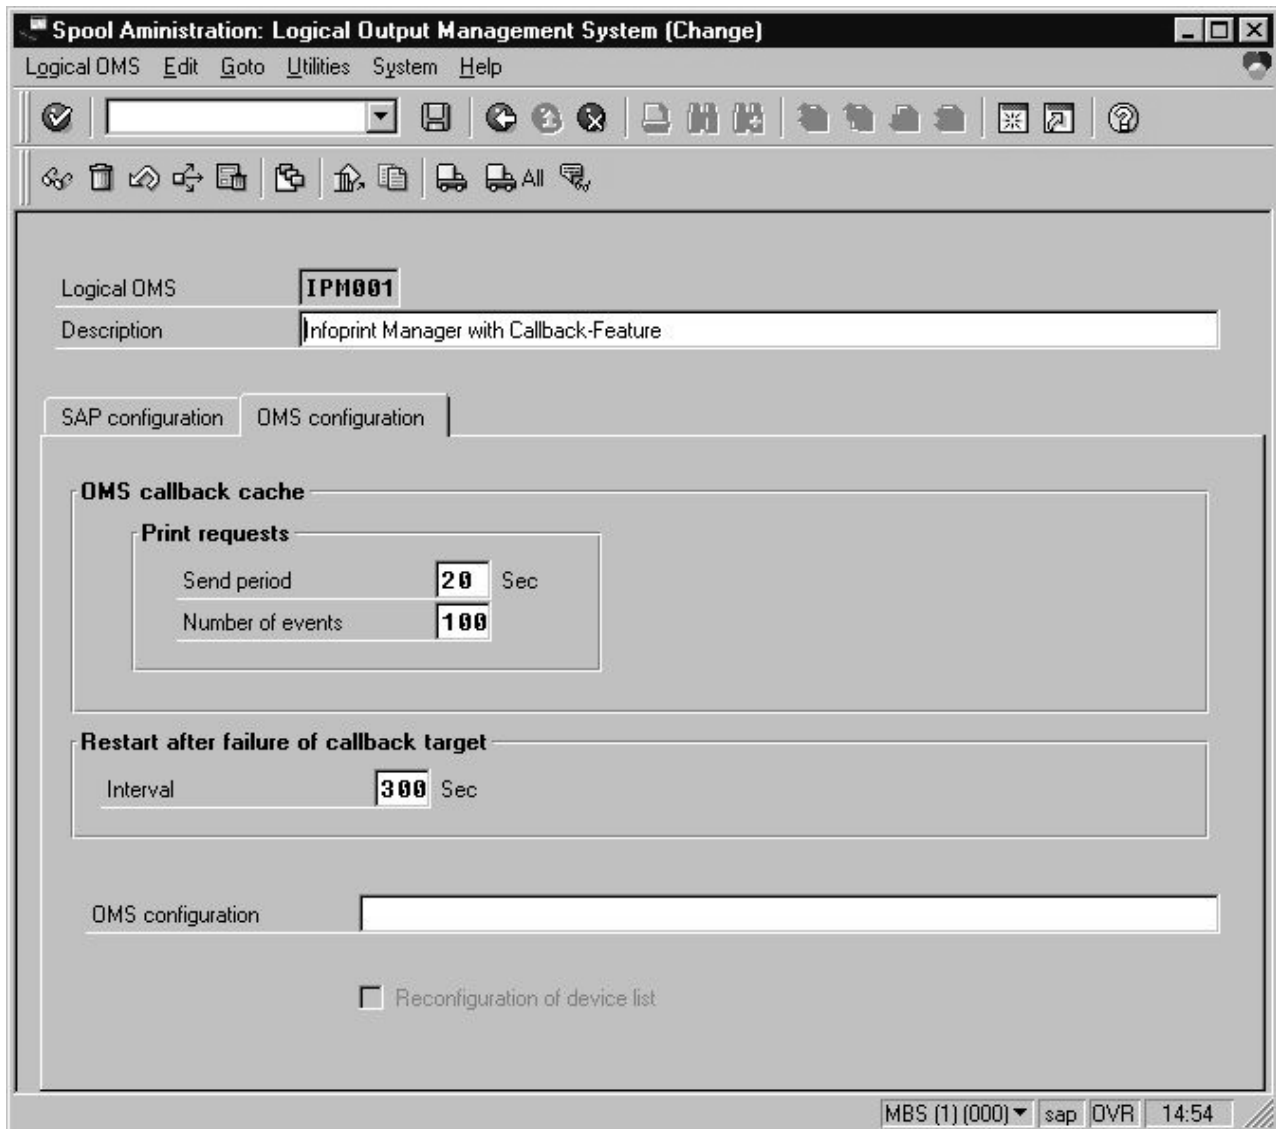

Figure 11. Specify Notification Event Values
7. From the **OMS Configuration** tab (Figure 11 on page 39), you can specify how often (**Send period** field) in seconds or how many (**No. of events** field) notification events the Infoprint Manager callback daemon should collect before delivery to the SAP R/3 system. In other words, the callback daemon will only deliver events for jobs on printers associated with this LOMS if it has collected x number or x seconds have passed since the last delivery.